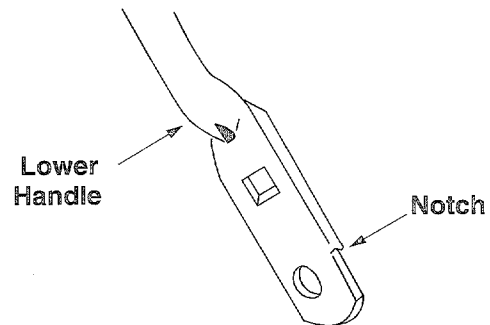

Figure 15
- Turn the lower handle around so the notches on the bottom of the lower handle are facing forward as shown in Figure 15. Reassemble, placing the bottom holes in the handle over the weld pins in the handle mounting bracket.